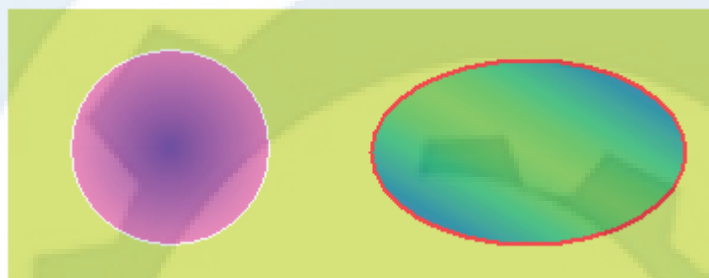

Figure 4-32: An example of an ellipse/circle drawn
- You may adjust the properties of the ellipse/circle using the pull-down and fine tuning button. SKWorkshop provides 15 frame line types, 10 frame line widths, and 21 filling patterns for ellipse/circle to make the graph more beautiful and vivid. See Figure 4-32.